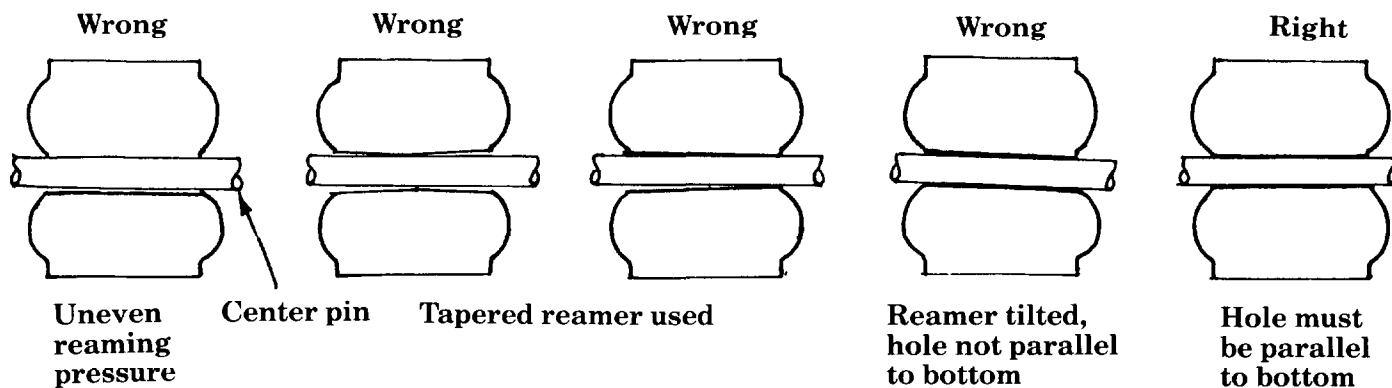

Figure 1
3. Birdseye improperly reamed (see *Figure 1*).